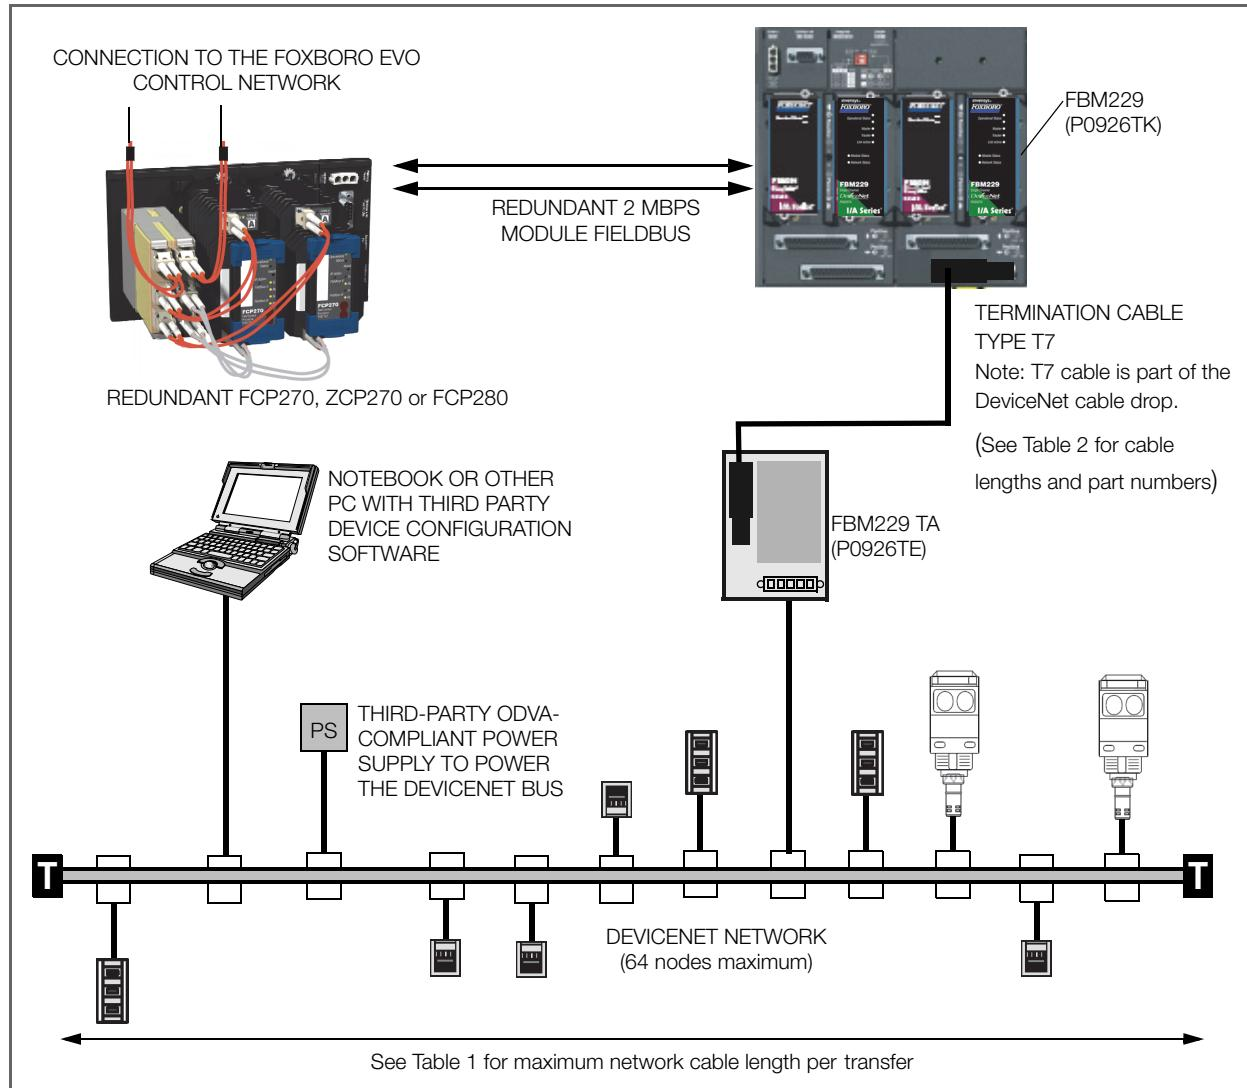

Figure 1. Typical FBM229 Configuration
The FBM229 provides the interface to field devices for either the DIN rail mounted FCP270/FCP280 Field Control Processors or the rack mounted ZCP270 Z-Form Control Processor. When deployed for use with an FCP270 or FCP280 (as shown in Figure 1), the module is installed in the same baseplate or in an adjacent baseplate, and communicates with the control station over a 2 Mbps Fieldbus. The FCP270 or FCP280, in turn, is connected over a 100 Mbps switched network to other control stations, supervisory applications, system management stations, and other Foxboro Evo control resources.
In addition to the four-position baseplate shown in Figure 1, the FBM can be mounted on any of baseplates described in *Standard 200 Series Baseplates* (PSS 31H-2SBASEPLT).
The FBM229 is connected to the DeviceNet segment via a DeviceNet specific termination cable (Type 7) and a termination assembly (TA), as shown in Figure 1. With this drop, the FBM229 operates as a scanner node on the network and complies with the DeviceNet Communication Adapter profile. See "TERMINATION ASSEMBLY" on page 6 for a description of the Type 7 cable and the TA.
A basic DeviceNet topology is shown in Figure 1, however, numerous other topologies can be employed. Refer to PUB00027R1, *Planning and Installation Manual: DeviceNet™ Cable System* (available at [www.odva.org](http://www.odva.org)).